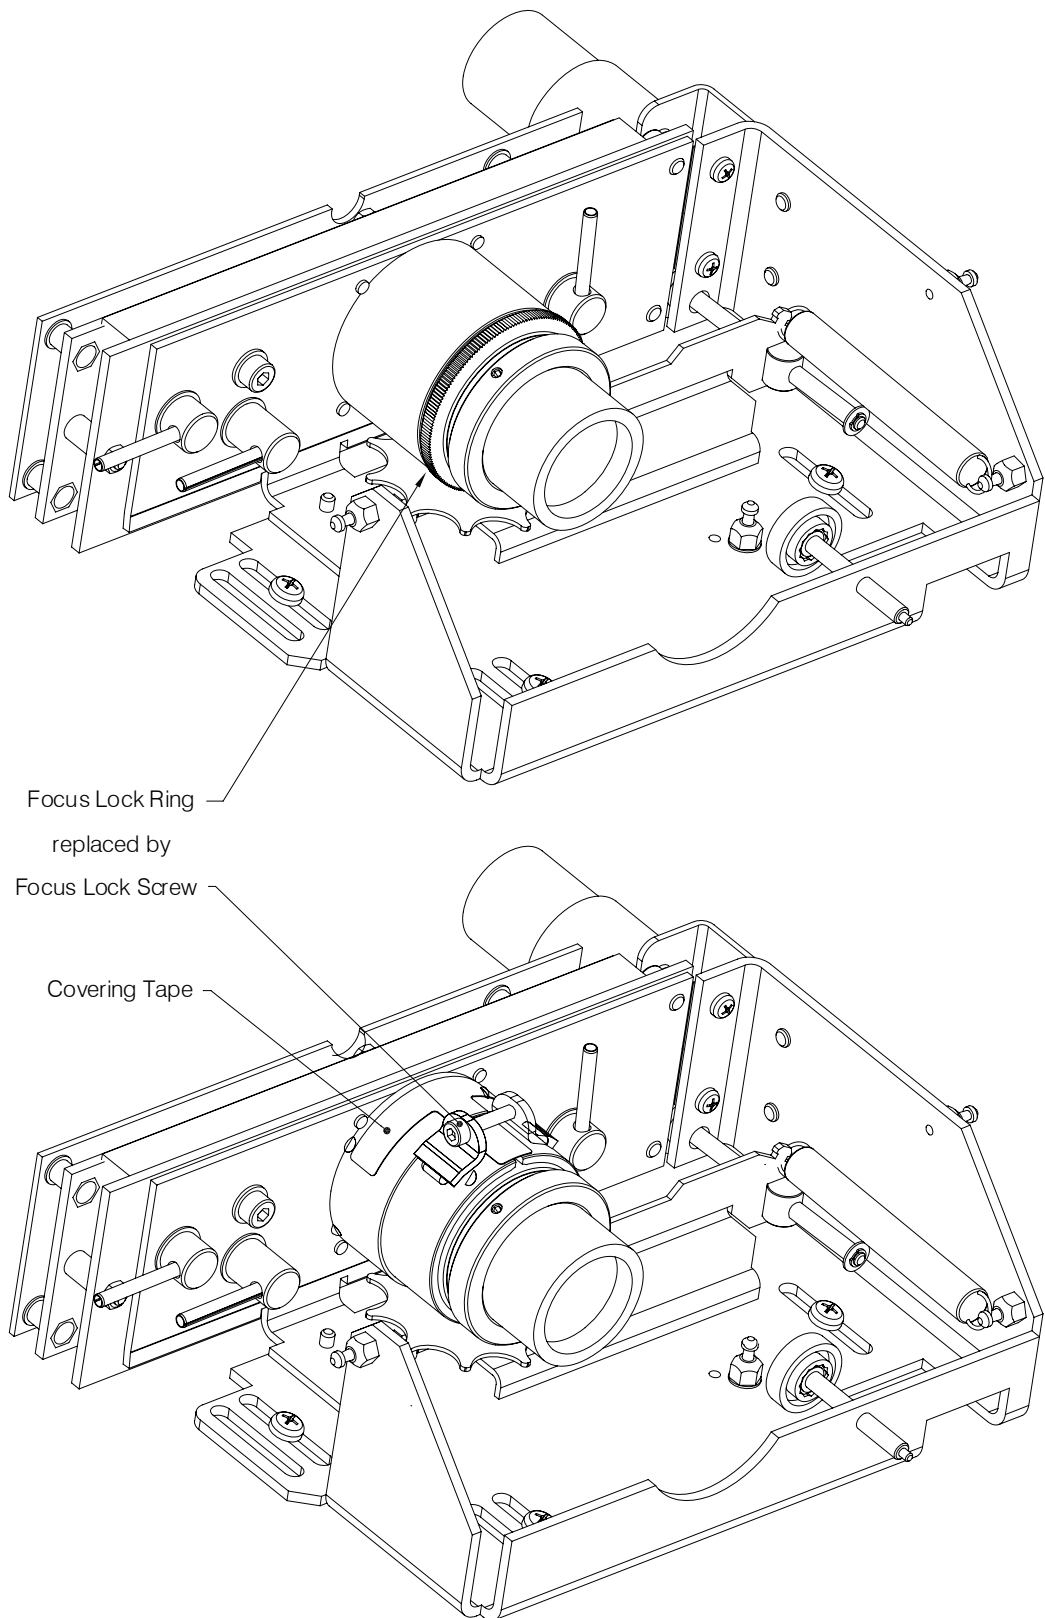

Fig. 4-1 Focus Lock Mechanism
- Fig. 4-1 Focus Lock Mechanism, page 82
On later models, slots in the Camera Housing allow the tube of the Camera Housing to be tightened around the Lens Adapter by means of a Focus Lock Screw, see Fig. 4-1, page 82.